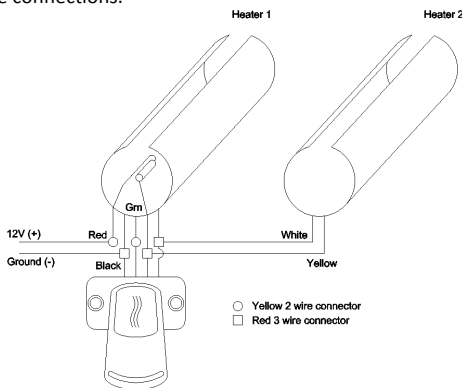

Figure 1: Internal Heaters Wire Connections
13. The wire connections are made on the side of the handlebars that the controller is being mounted on. Hold heater 1 near the end of the bars and make the connections as shown in **Figure 1**. **Note:** If a spacer is needed, mount the controller with the spacer before making the connections.